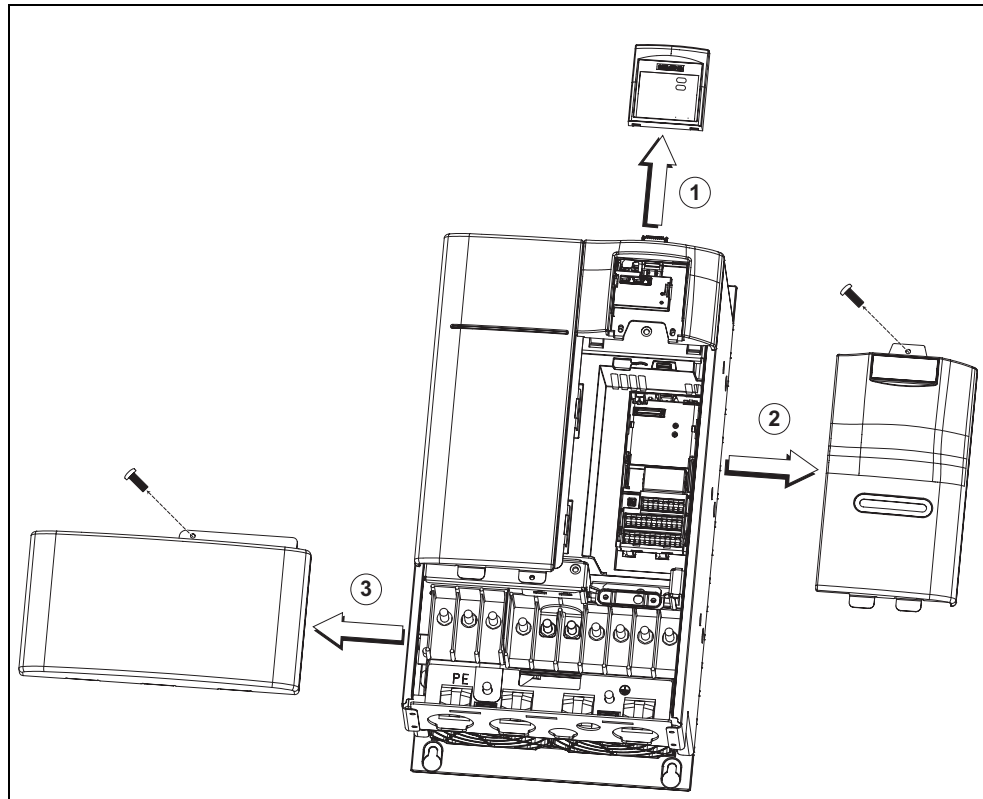

Fig. 2-3 Removing front covers (Frame Sizes D and E)
- Frame size D and E (Fig. 2-3)